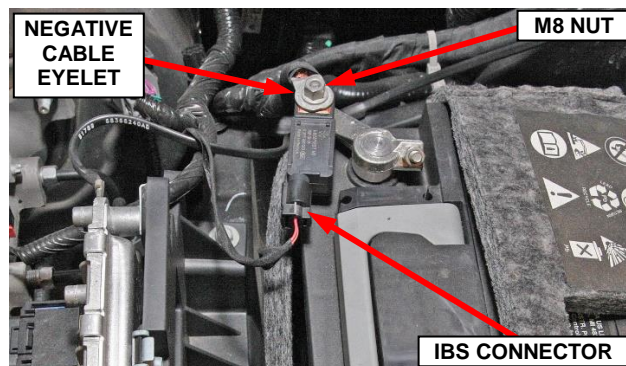

Figure 4 – Battery Negative Post
- Disconnect the Intelligent Battery Sensor (IBS) wire harness connector (Figure 4).
- Remove and **SAVE** the M8 nut from the IBS (Figure 4).
- Remove the battery negative cable eyelet from the IBS stud and isolate the negative battery cable away from the IBS negative cable terminal (Figure 4).